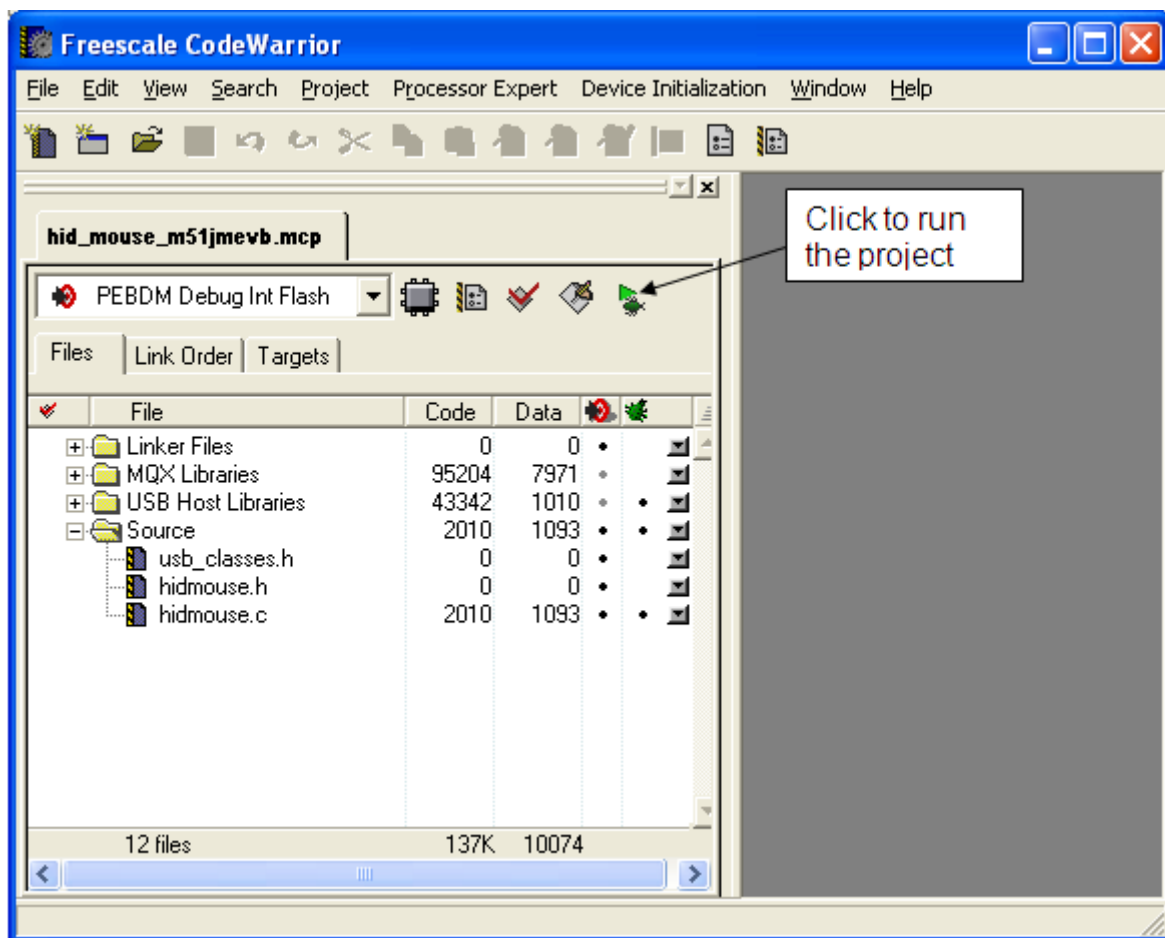

Figure A-4. Running the Application
1. To run the application, click the button as shown in Figure A-4